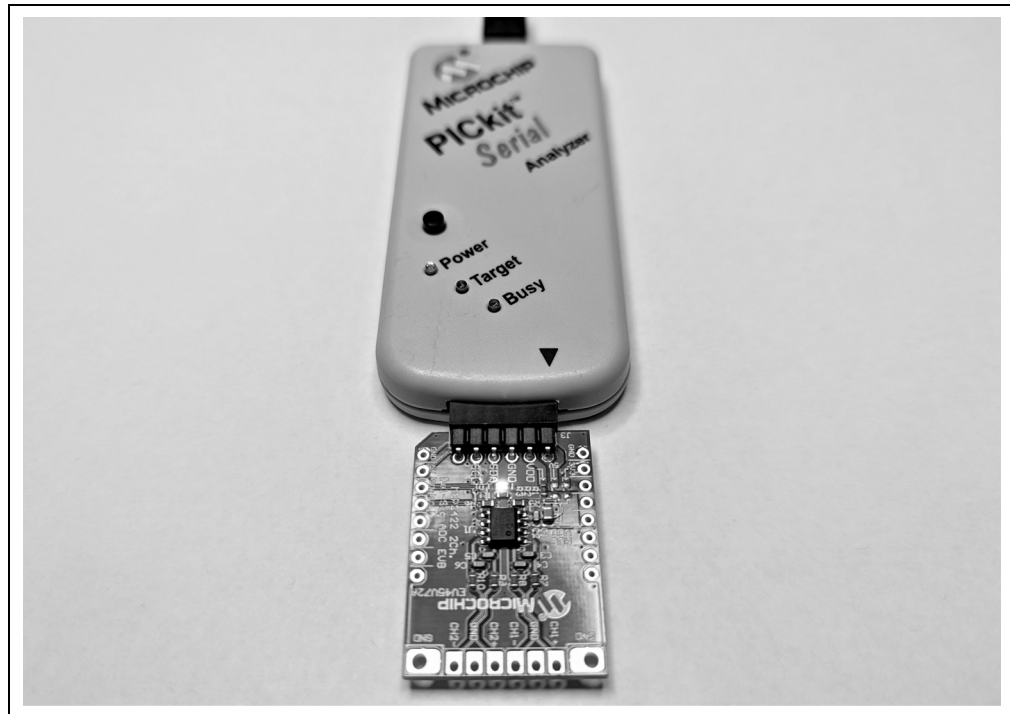

FIGURE 2-1: MCP3421/2/5 SOT-23-6 Evaluation Board with the PICKit™ Serial Analyzer.
2. Connect the MCP3421/2/5 SOT-23-6 Evaluation Board's J3 pin header to the PICkit™ Serial Analyzer, as shown in Figure 2-1.